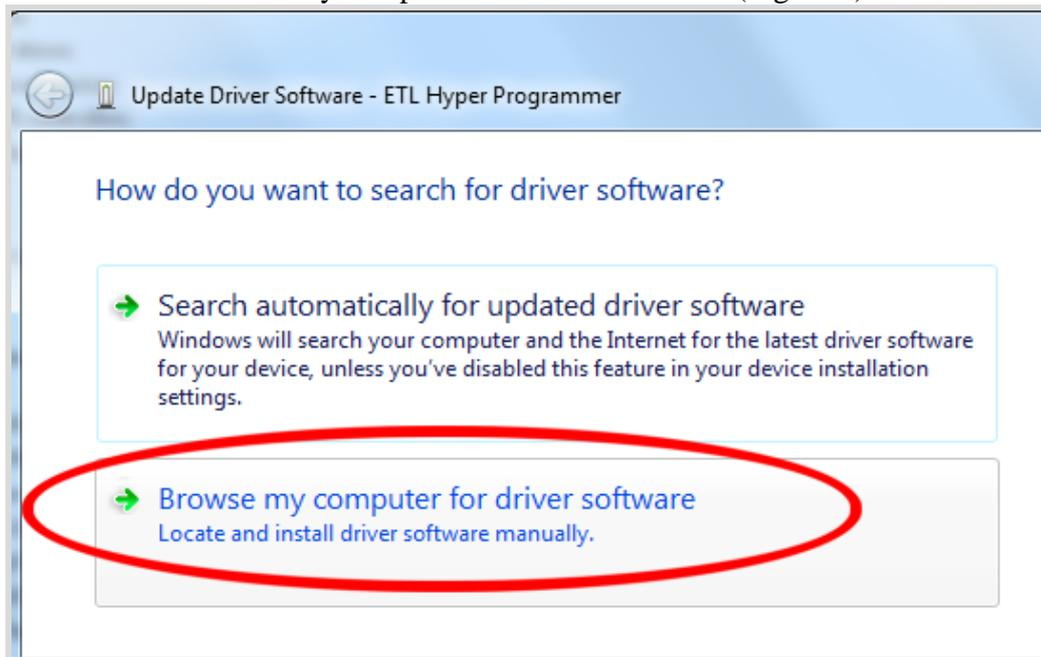

Figure 6. Update Driver Software - "ETL Hyper Programmer"
- Select the "Browse my computer for driver software" (Figure 6)